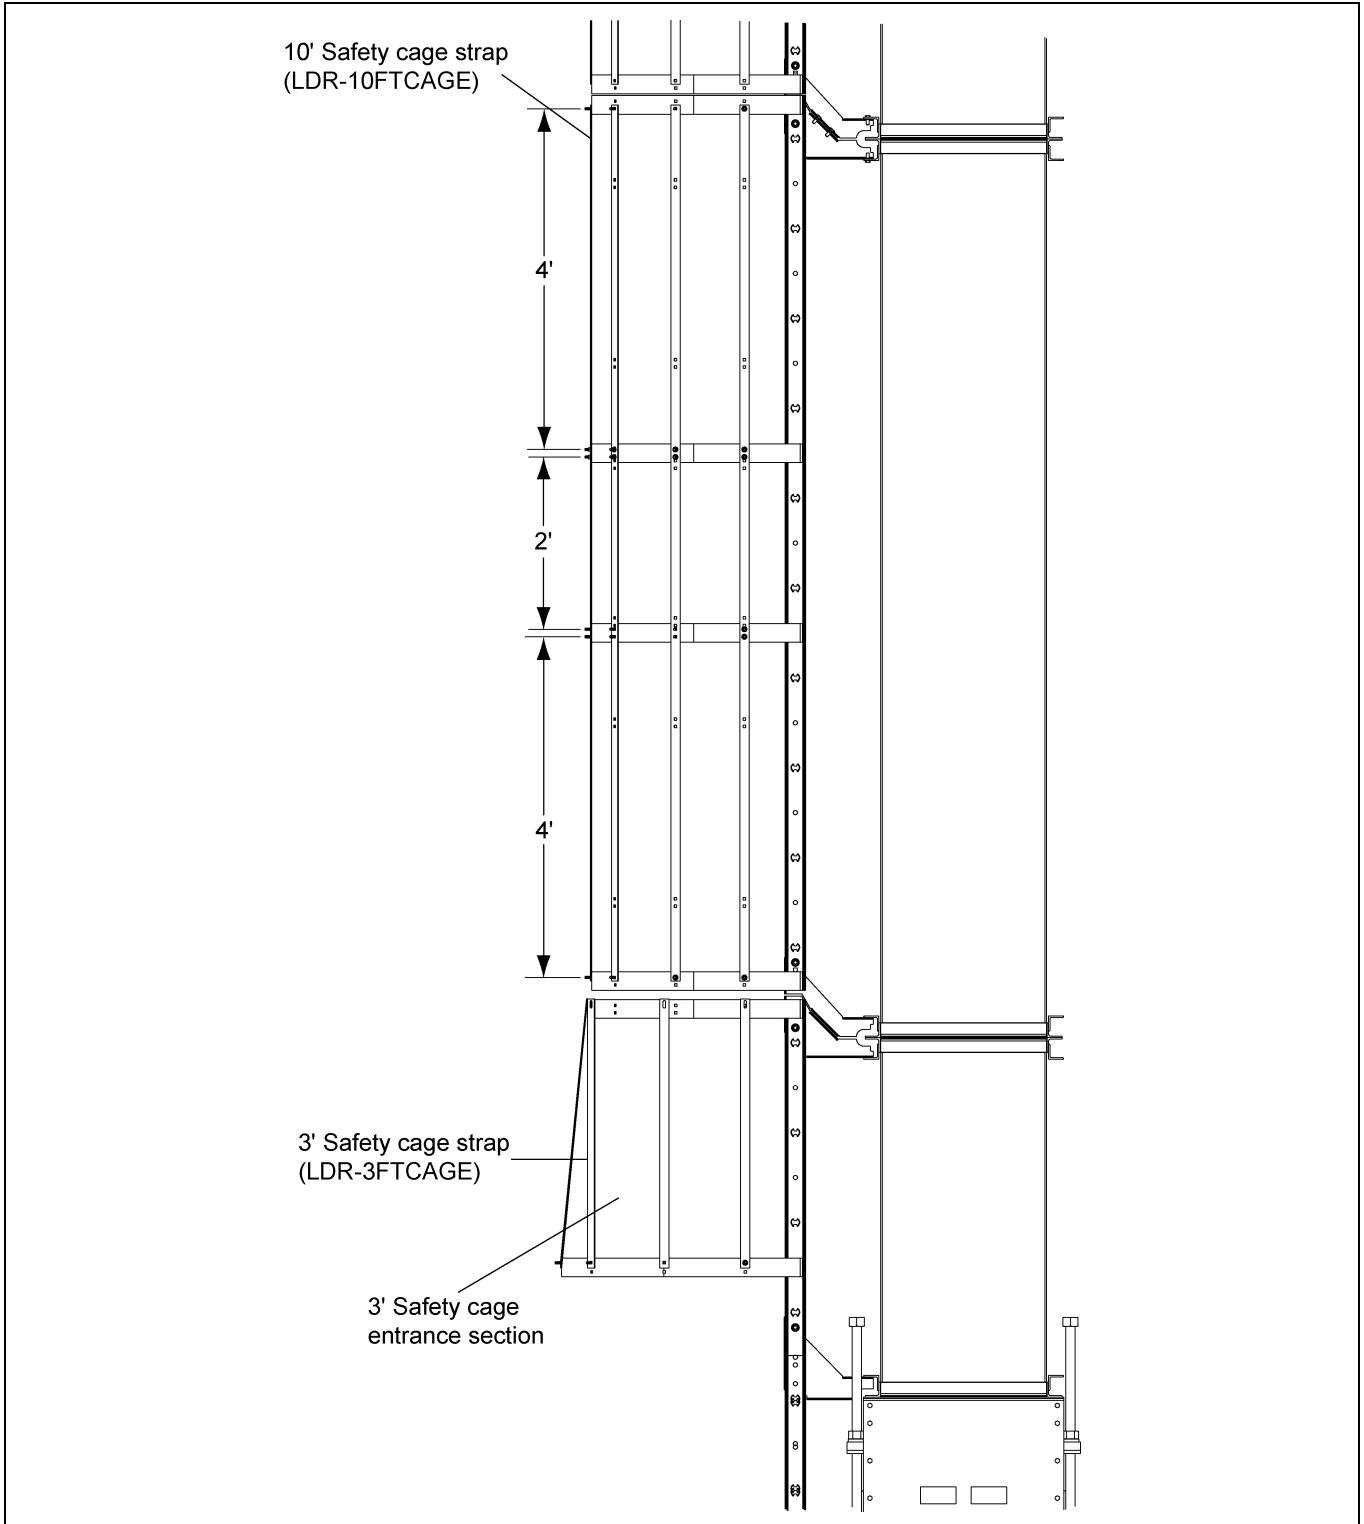

Figure 60 10' Safety Cage Section
1. Locate safety cage hoops (LDR-BCKTBHP) along the ladder rails where the safety cage hoops will be installed. **NOTE:** *The end hoops of a 10' section are spaced 4' from the two (2) middle hoops, which are spaced 2' apart. See Figure 60 for spacing. (See Figure 60.)*